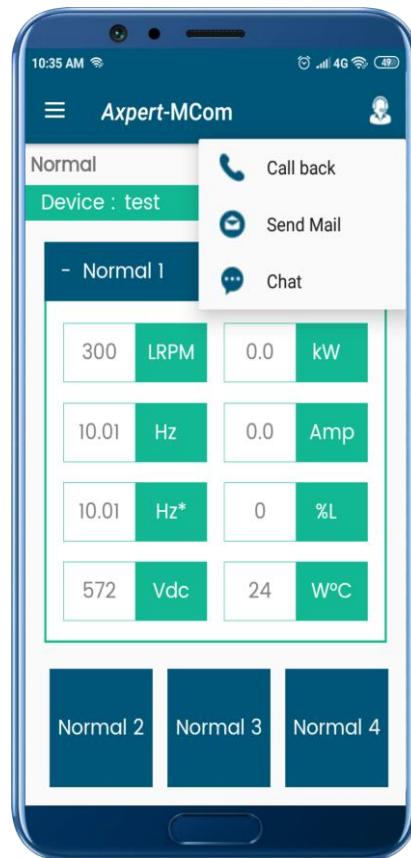

Figure 30: Call back, send email and chat options
- The user can select the required functionality from the top user icon as shown in figure 30.